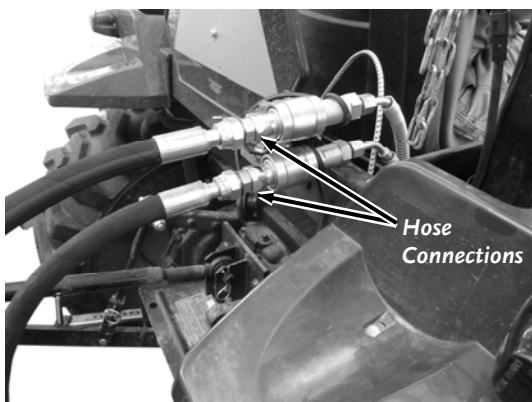

Figure 9
2. Attach the High Pressure Hose Connector to the pressure Port coming from the Tractor pump (**Figure 9**). Attach the Return Hose Connector to the return Port going to the Tractor Hydraulic Tank.